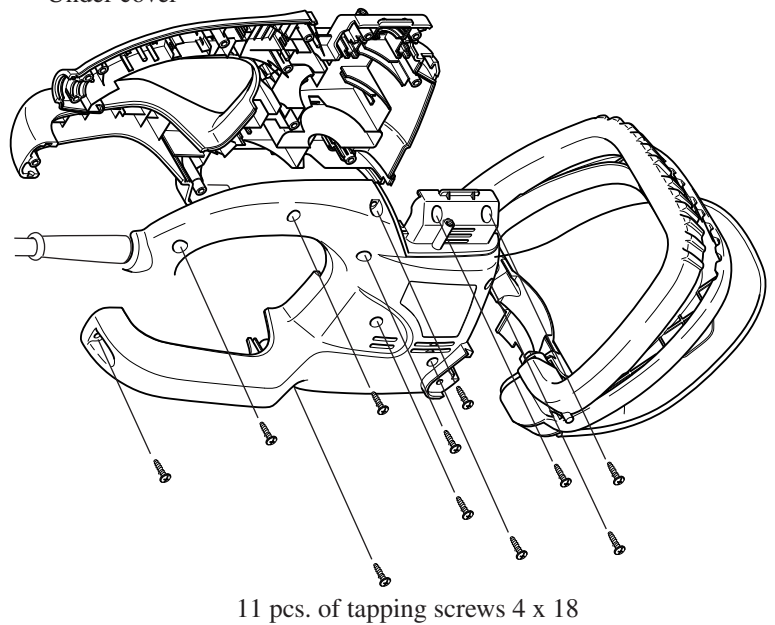

Fig. 24
4. Loosen 11 pcs. of tapping screws 4 x 18, and disassemble housing R from housing L. See Fig. 24.